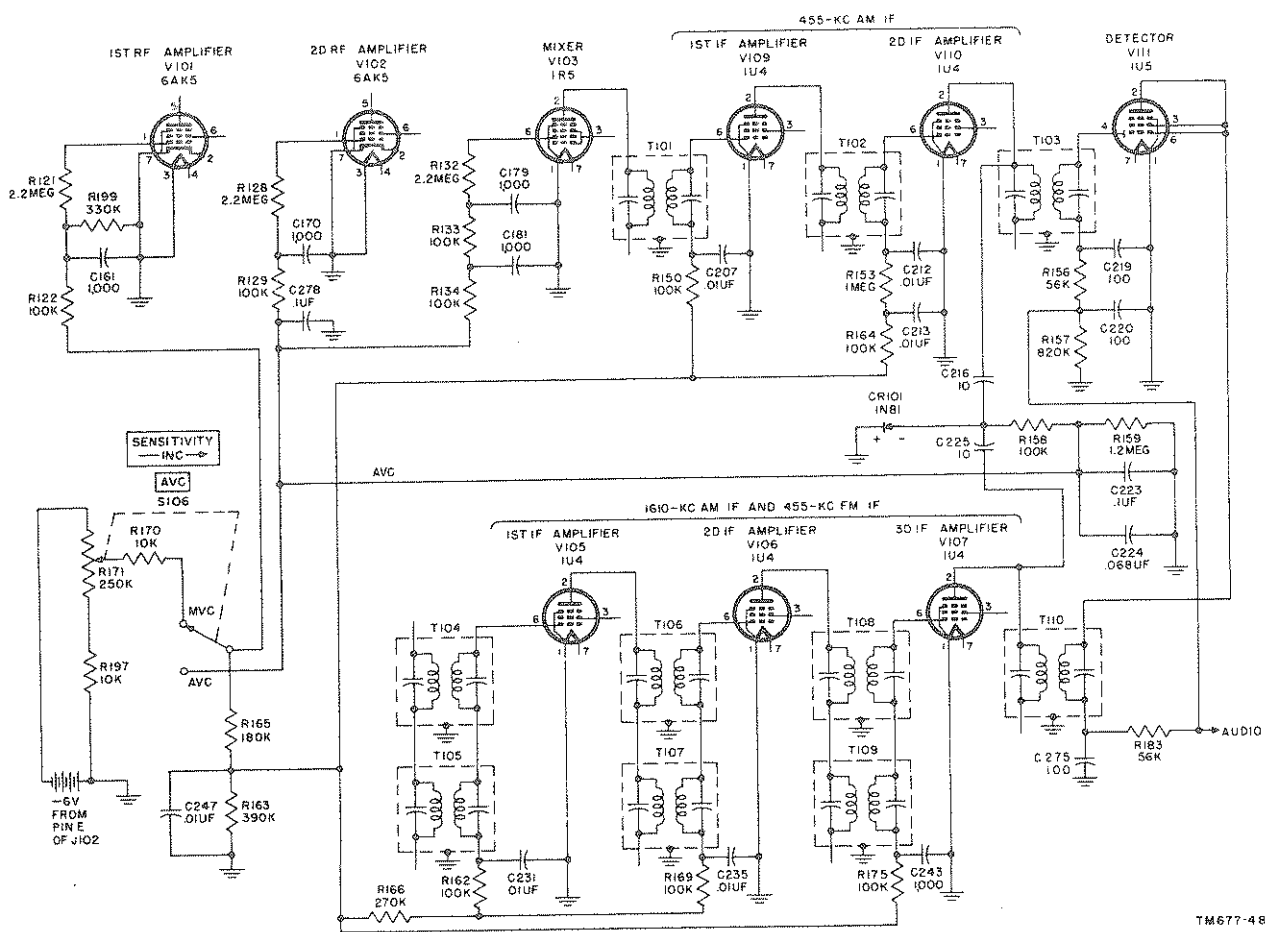

Figure 48. Radio Receiver R-395/PRD-1, simplified diagram of AVC switch and SENSITIVITY control circuits.
b. When S106 is in the AVC position (fig. 48), automatic volume control voltage is coupled from the avc circuit to the input circuits of first and second rf amplifier V101 and V102, mixer V103, and if. stages V109, V110, V105, V106, and V107. The path for this negative voltage is from the negative side of R159 to the avc contact and arm of S106 by way of the voltage divider network consisting of R165 and R163, through a parallel